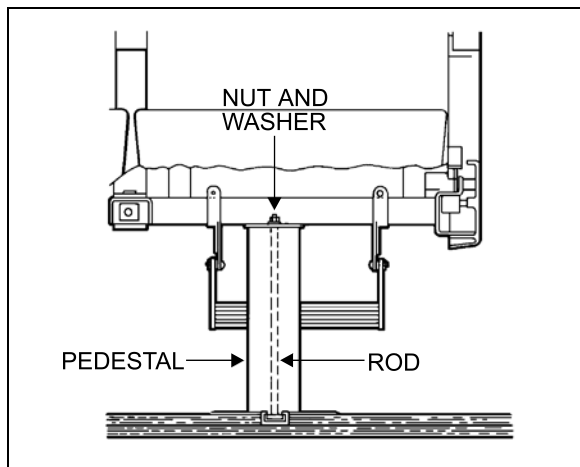

FIGURE 28: SEAT PEDESTAL ASSEMBLY 18107
4. Remove 2 cap screws, nuts, and washers holding seat frame to side wall and retain the 2 holding brackets. See Figure 27 and Figure 28.